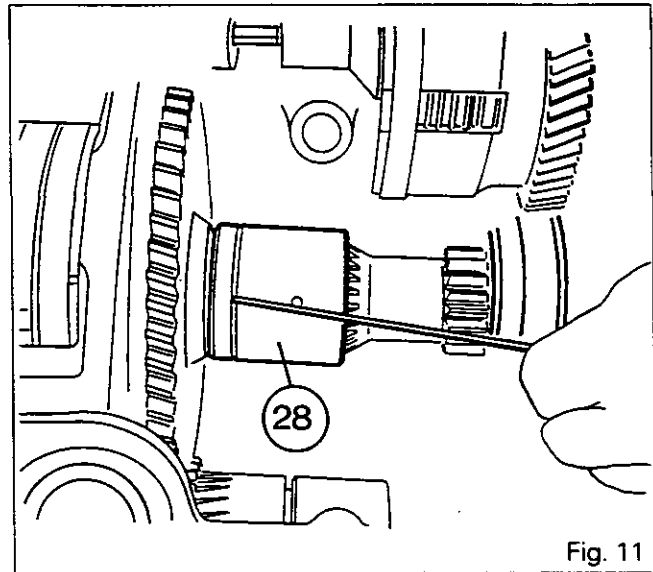

Fig. 11
Note : Position the grooved end of the sleeve (28) towards the rear of the tractor (Fig. 11).